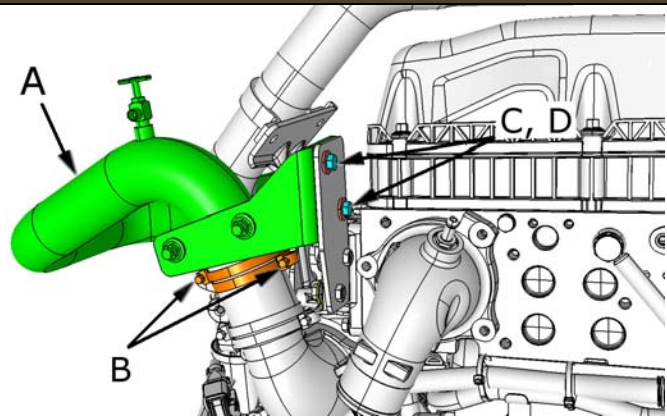

FIGURE 18
25. Reinstall the coolant pipe loosely (A on FIGURE 18).
26. Place the two (2) hose clamps (B on FIGURE 18).